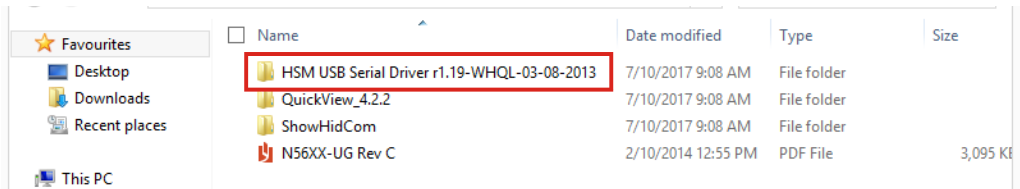

Figure 5-28: Barcode Reader Driver Folder
Step 1: The barcode reader driver is located in the following folder (**Figure 5-28**):